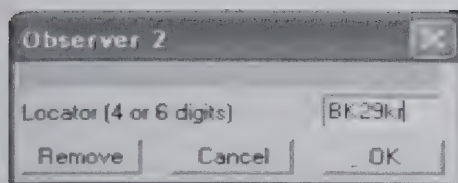

Figure 23.
C) Observer 2: Another handy function is Accy>Observer2. This feature will allow you to mark another location so you can see on the map when that grid is in range of the pass. In Figure 23, I have entered the grid BK29kr in Hawaii. The grid selection will create three Plus signs on the map: my location in Minnesota, the satellite's position and the location of Observer 2 (Figure 24). I then can see at a glance when both my location and the Observer 2 location are in the footprint of the satellite.